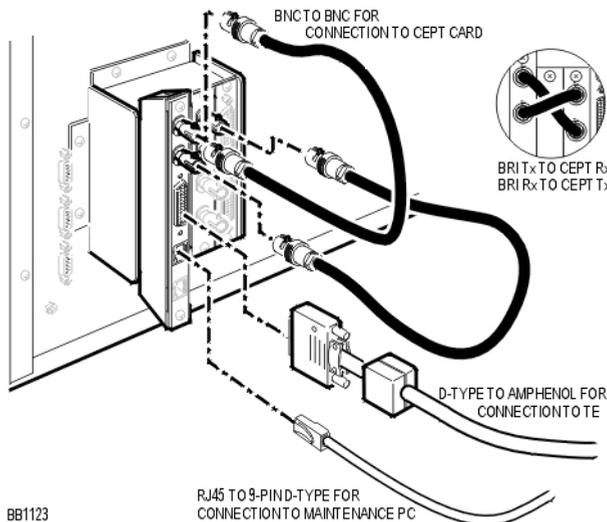

Figure 28: BRI Card Connections
4. Using a BNC to BNC cable, connect the Rx port on the BRI interface assembly to the Tx port on the CEPT interface assembly (see Figure 28 on page 153).